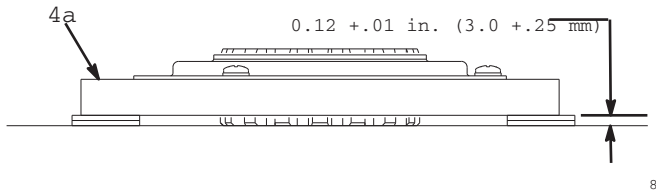

FIG. 10
2. Lay armature (4a) on two stacks of dimes (FIG. 10).